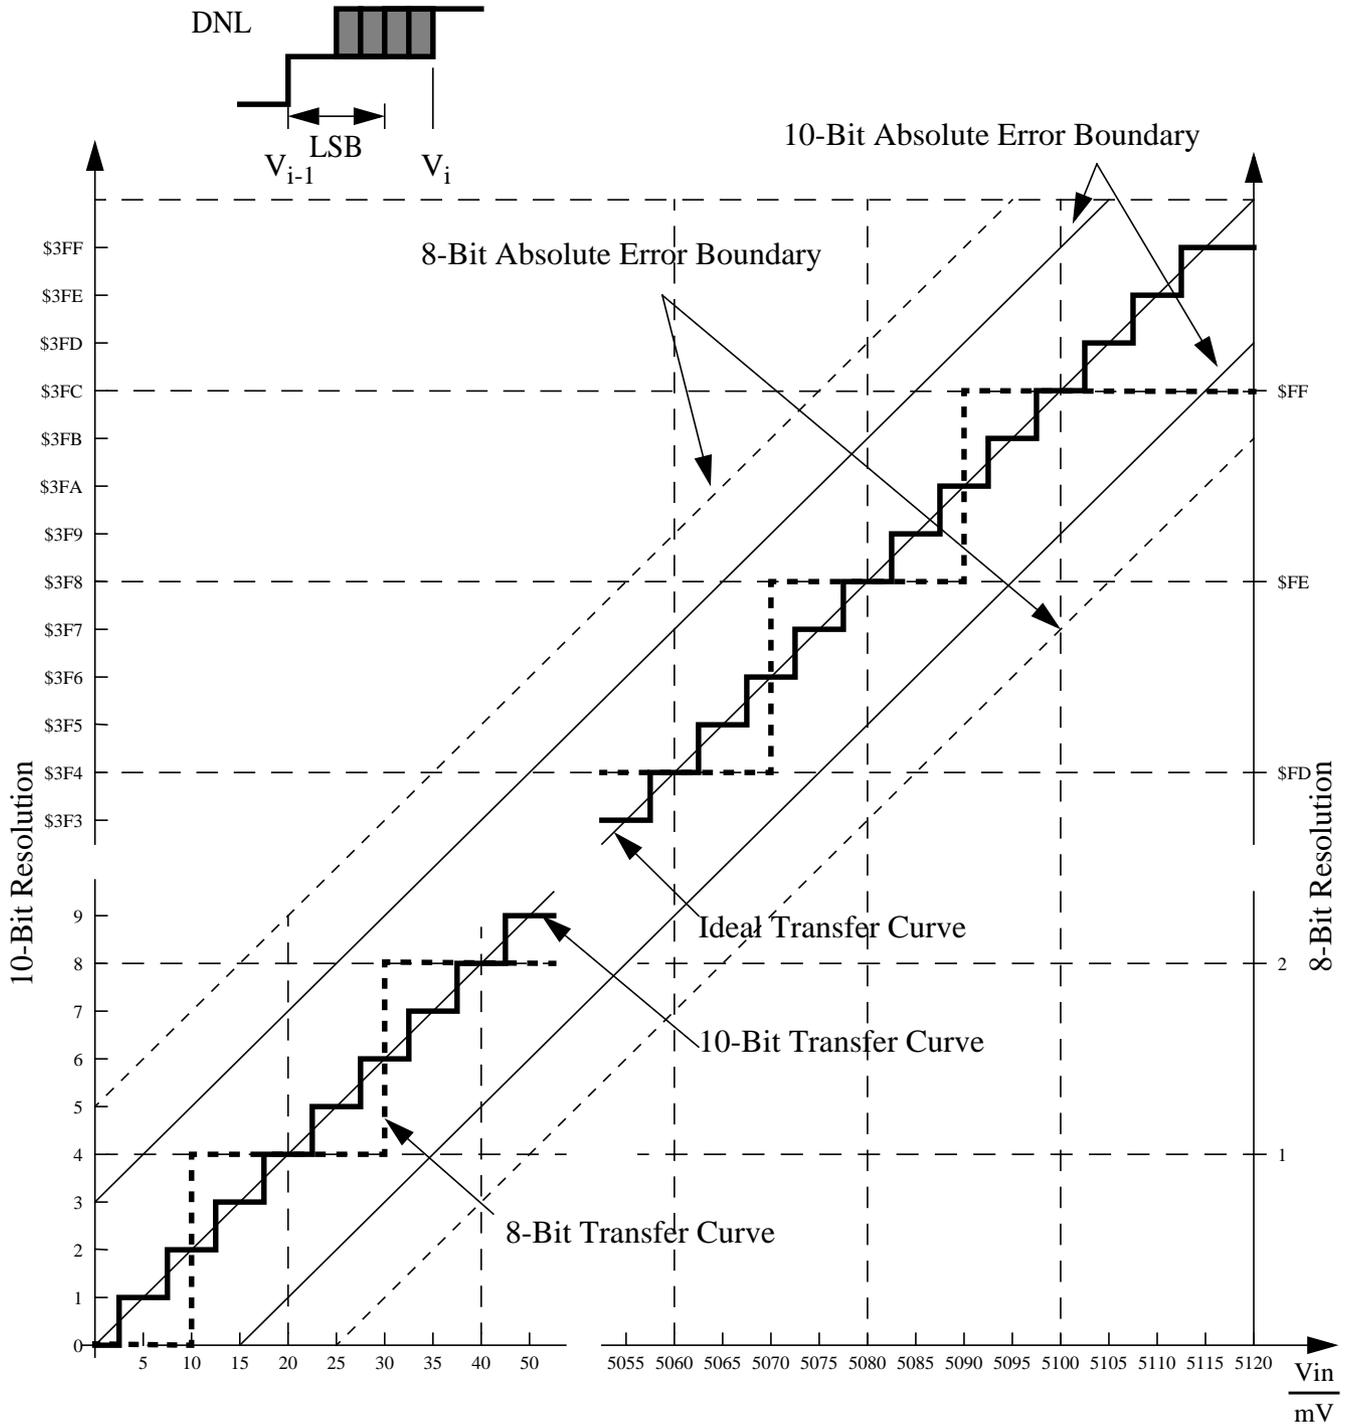

Figure A-1 ATD Accuracy Definitions
For the following definitions see also **Figure A-1**.
NOTE: Figure A-1 shows only definitions, for specification values refer to Table A-13.
6. Monitors V_{DD} , active only in Full Performance Mode. MCU is monitored by the POR in RPM (see **Figure A-1**)